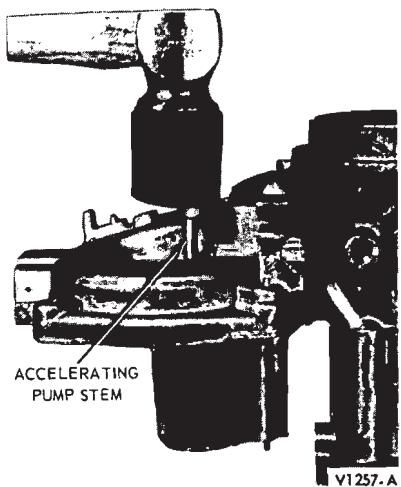

FIG. 12—Accelerating Pump Removal
9. Remove the accelerating pump assembly. Use a light hammer and tap on the upper end of the pump plunger shaft. The accelerating pump cover, plunger and spring will drop from the lower end of the casting (Fig. 12).